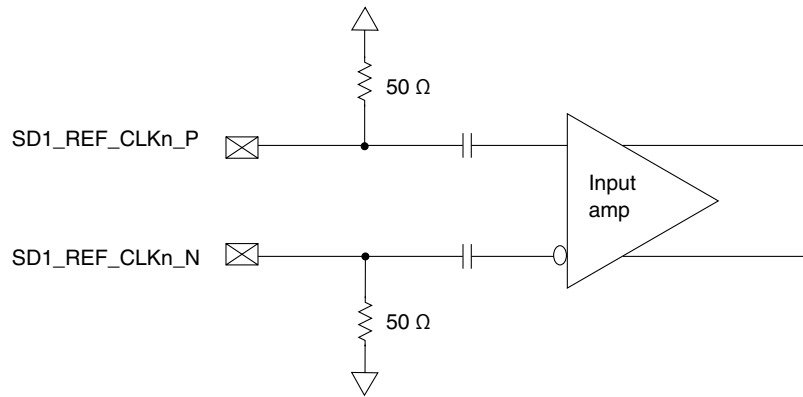

Figure 88. Receiver of SerDes reference clocks
- The `SD1_REF_CLKn_P` and `SD1_REF_CLKn_N` are internally AC-coupled differential inputs as shown in Figure 88. Each differential clock input (`SD1_REF_CLKn_P` or `SD1_REF_CLKn_N`) has on-chip 50- Ω termination to `SGNDn` followed by on-chip AC-coupling.
- For an external DC-coupled connection, as described in Figure 88, the maximum average current requirements set the requirement for average voltage (common mode voltage) as between 100 mV and 400 mV.